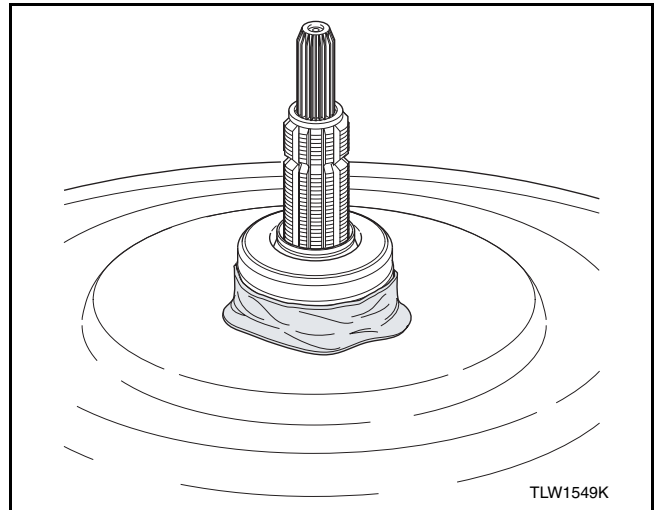

Figure 66
w. It is important to ensure that there are no leaks in the bead of No. 200996 Sealant (3M-560). Refer to *Figure 66*. To ensure seal is complete check for the following: